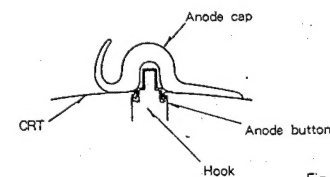

Fig. 2
- (4) Turn over the anode cap. (See Figure 2)